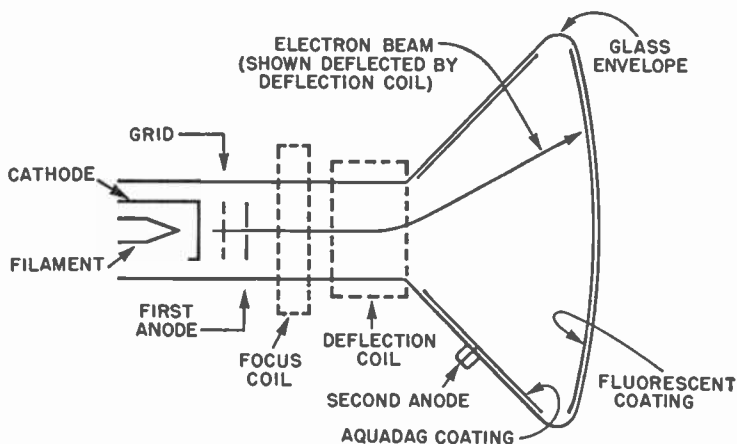

Fig. 8.65. Cross section of a cathode-ray tube.
A. (See figure 8.65.) The purpose of the aquadag coating is to act as an anode of a cathode-ray tube.
D. Aquadag is a graphite solution in water which is applied as a coating to the inside of cathode-ray tubes (as in figure 8.65). It is a good conductor and is employed in radar cathode-ray tubes as a second anode. It also acts as an electrostatic shield to protect the electron beam from stray electric fields.
2. **FUNCTION OF ELECTRODES.** (See figure 8.65.) The PPI tube has a filament similar to that used in receiving tubes. This filament heats up and, in turn, heats a coated cathode, causing electrons to be emitted from the cathode. These electrons first encounter a grid which functions in a manner similar to the grid in a conventional triode. That is, it controls the amount of electrons passing it and, thus, the *intensity* of the spot produced on the PPI screen. After passing the grid, the electrons (now restricted to a fairly narrow stream), are acted upon by the first anode, which produces some acceleration of the electron stream toward the screen. Further and final acceleration is provided by the second anode (aquadag coating).
D. PPI tubes frequently employ *magnetic* focusing accomplished by a focus coil which is located as indicated in figure 8.65. Deflection is usually accomplished by a magnetic deflection coil which moves the beam radially out from the center to the outer edge of the screen. The rotating effect of the sweep may be accomplished by *rotating* the deflection coil mechanically in synchronism with the antenna. (See Question 8.69.)